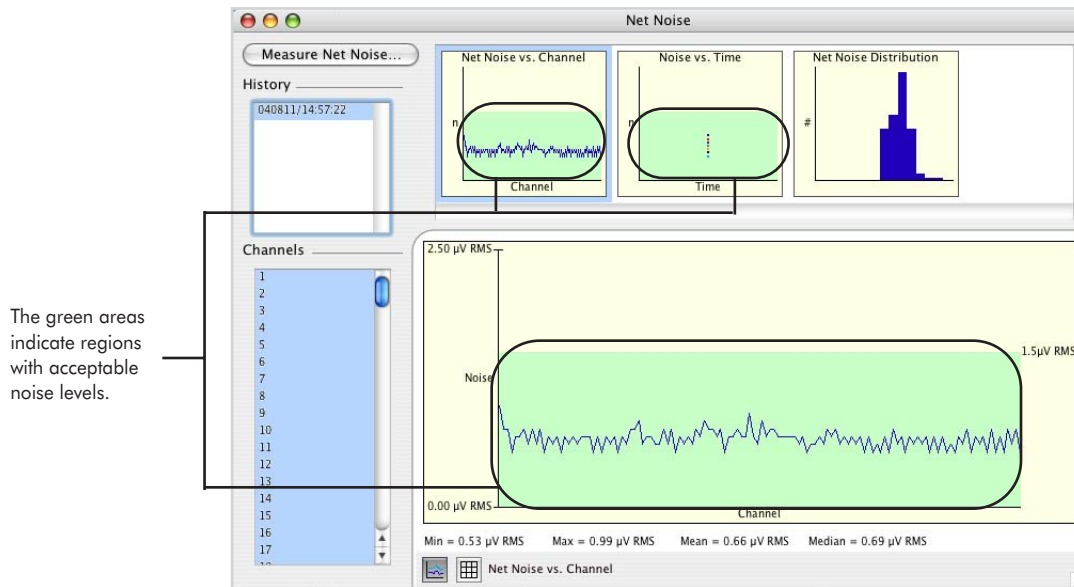

Figure 4-55. Net Noise results
- 6 When the measurement is complete, the results are graphed in the Net Noise window (Figure 4-55).